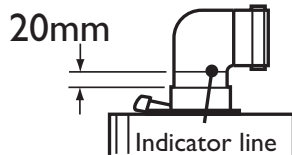
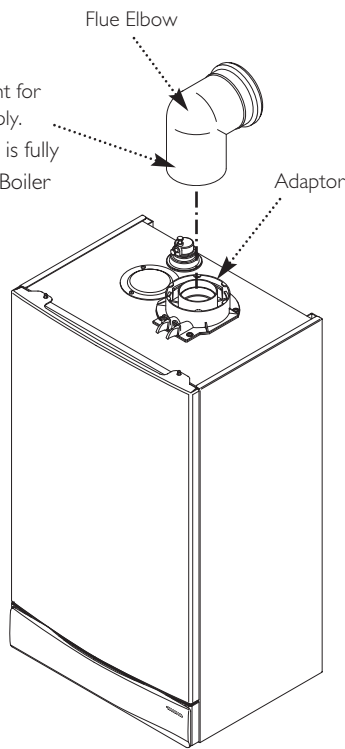

Fig. 38
Fig. 37
2. Locate the flue elbow on the adaptor at the top of the boiler. Set the elbow to the required orientation (Fig. 37). The elbow is fully engaged when there is a distance of 20mm from the adaptor to the indicator line (Fig. 38).